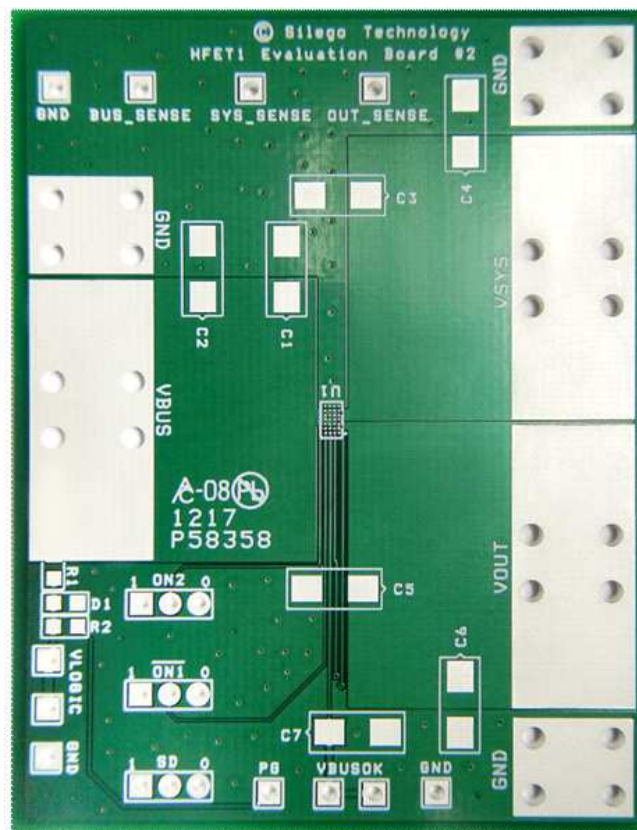

Figure 1. SLG59H1302C Evaluation Board
1. Since the BUS, SYS and OUT pins dissipate most of the heat generated during high-load current operation, it is highly recommended to make power traces as short, direct, and wide as possible. A good practice is to make power traces with absolute minimum widths of 15 mils (0.381 mm) per Ampere. A representative layout, shown in Figure 1, illustrates proper techniques for heat to transfer as efficiently as possible out of the device;
A High Voltage GreenFET Evaluation Board for SLG59H1302C is designed according to the statements above and is illustrated on Figure 1. Please note that evaluation board has BUS_Sense, SYS_Sense and OUT_Sense pads. They cannot carry high currents and dedicated only for RDS_{ON} evaluation. evaluation.